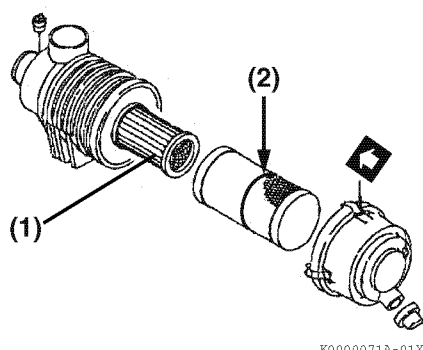

Figure 5-13
Note that a typical air cleaner is shown in **Figure 5-12** and **Figure 5-13** for illustrative purposes only.
4. If the air cleaner is equipped with a double element, only remove and replace the inner element (**Figure 5-13, (1)**) if the engine lacks power or the dust indicator actuates (if equipped).
Note: If there is a red line (**Figure 5-13, (2)**) in the outer element, reinsert the element until the overlap position of red line and end face of the air cleaner case.
If the air cleaner is equipped with a double element, *only remove and replace the inner element (Figure 5-13, (1)) if the engine lacks power or the dust indicator actuates (if equipped)*. This is in addition to replacing the outer element.